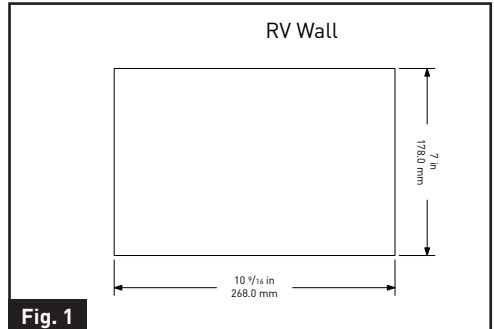

Fig. 1
2. Cut a rough opening (to the dimension outlined in Fig. 1) on the RV wall to allow the power center to slide in easily.